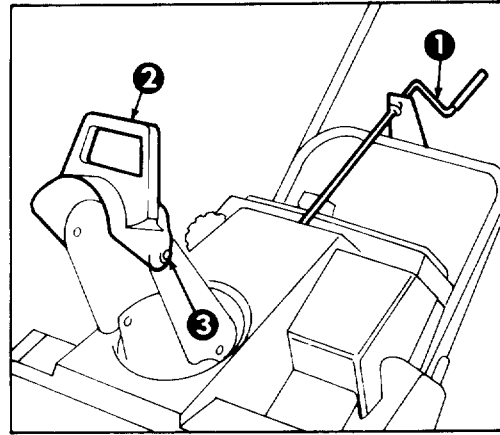

Figure 8
## OPERATING TIPS (Fig. 8)
1. ADJUSTING DISCHARGE CHUTE—Rotate chute crank clockwise to move discharge chute to the right and counterclockwise to move chute to the left. Deflector handle on top of discharge chute is used to control the height of the snow stream. Do not over tighten deflector mounting nuts (Fig. 8) so excessive force is